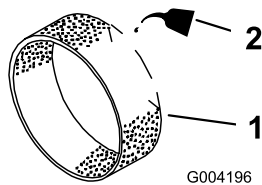

Figure 19
5. Put one or two ounces of engine oil on the pre-filter (Figure 19).